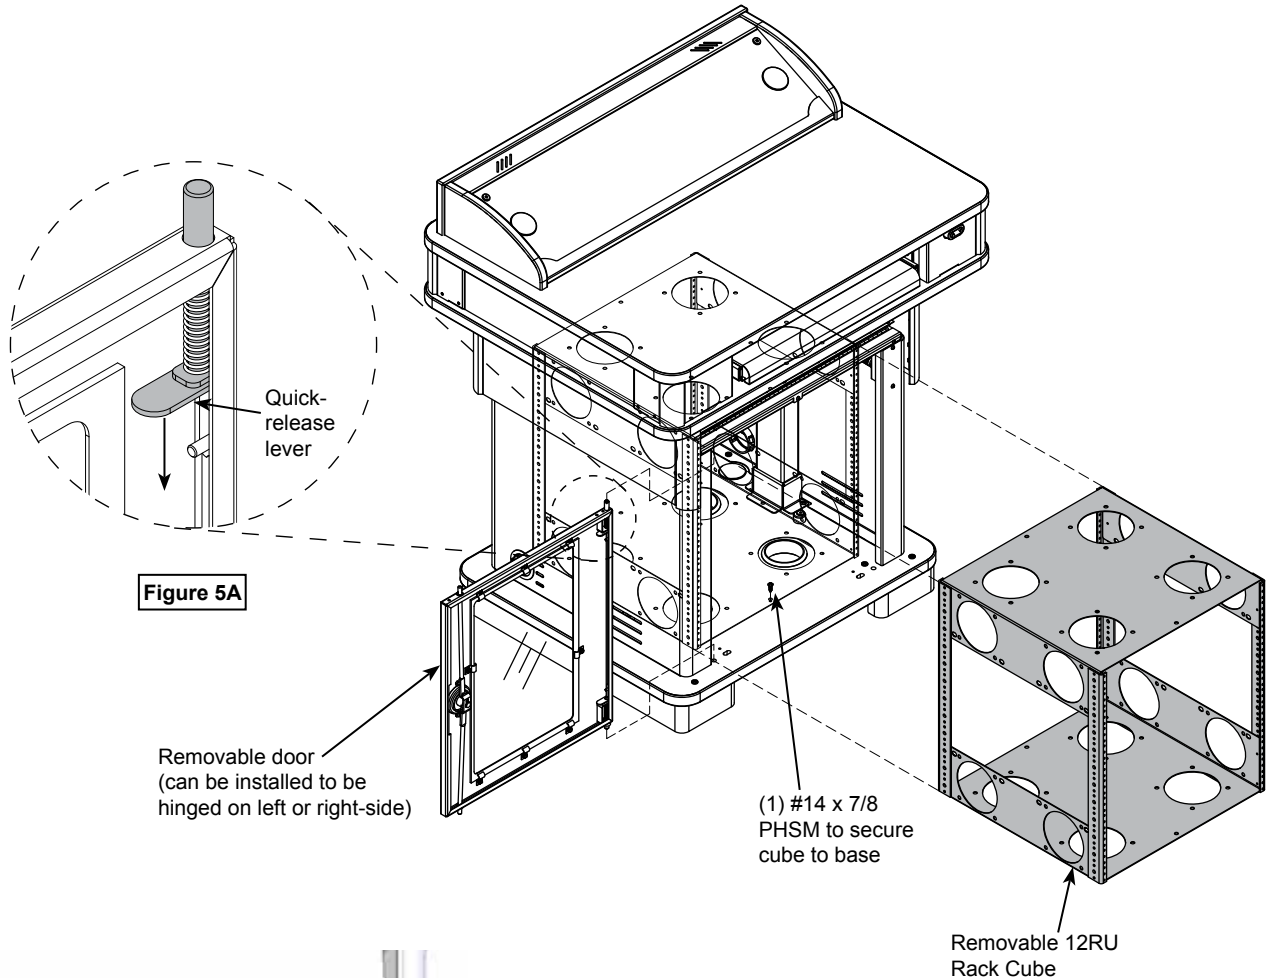

Figure 5C
3. Unscrew the #14 x 7/8" PHSM screw from the base, and slide out the cube. **Figure 5C.**